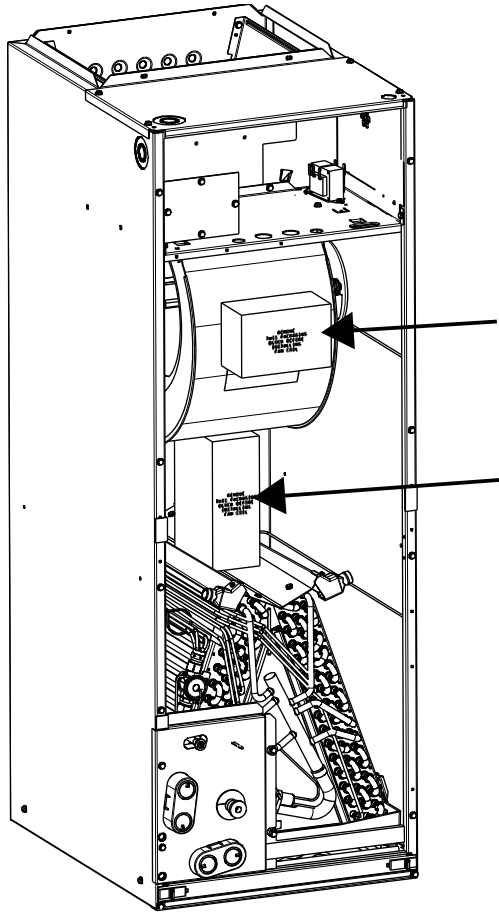

Fig. 1 – Remove Shipping Blocks
**NOTE:** Shipping block(s) that support the blower housing during transit will need to be removed (Fig. 1).